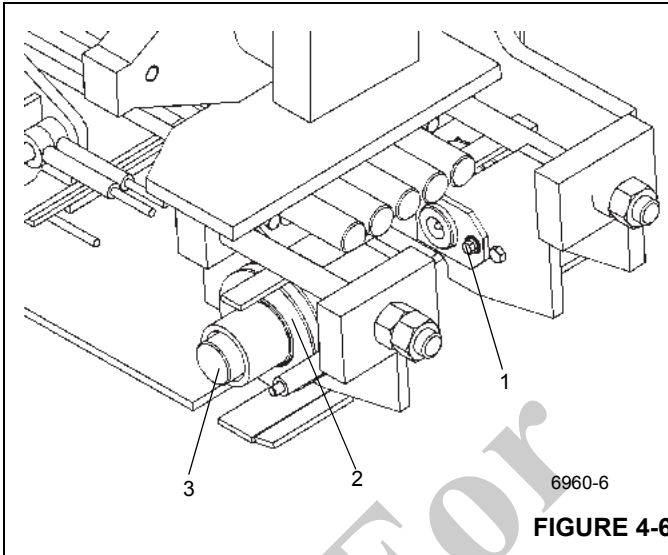

FIGURE 4-6
- On both sides, remove the capscrews (1) securing each retract sheave assembly shaft weldment. Remove the shaft, spacer bushing, sheave assembly, and two thrust washers (3) (Figure 4-6). If necessary, remove the grease fitting from the shaft weldment.